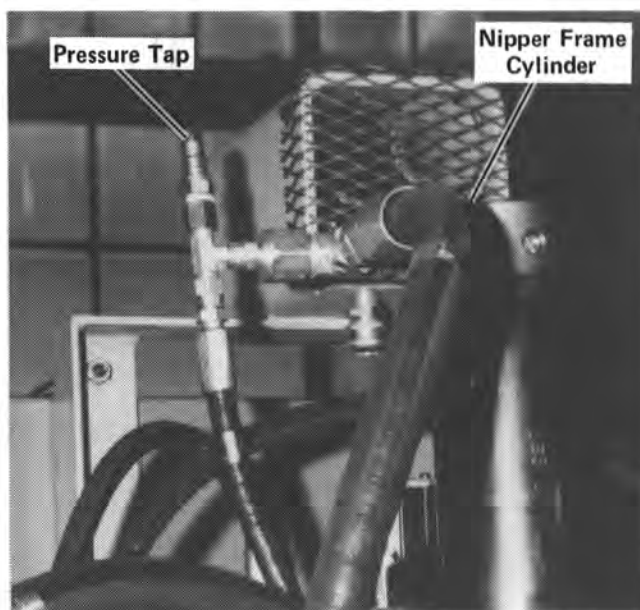

Figure 35
1. Install the pressure gauge on the pressure tap at the top of the nipper frame cylinder. See Figure 35.